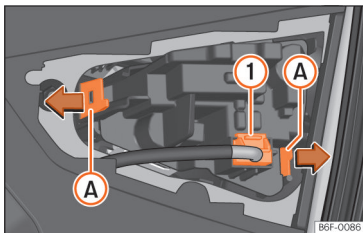

Fig. 174 Remove the bulb holder.
- Remove the bulb connector >>> **Fig. 174** ①.